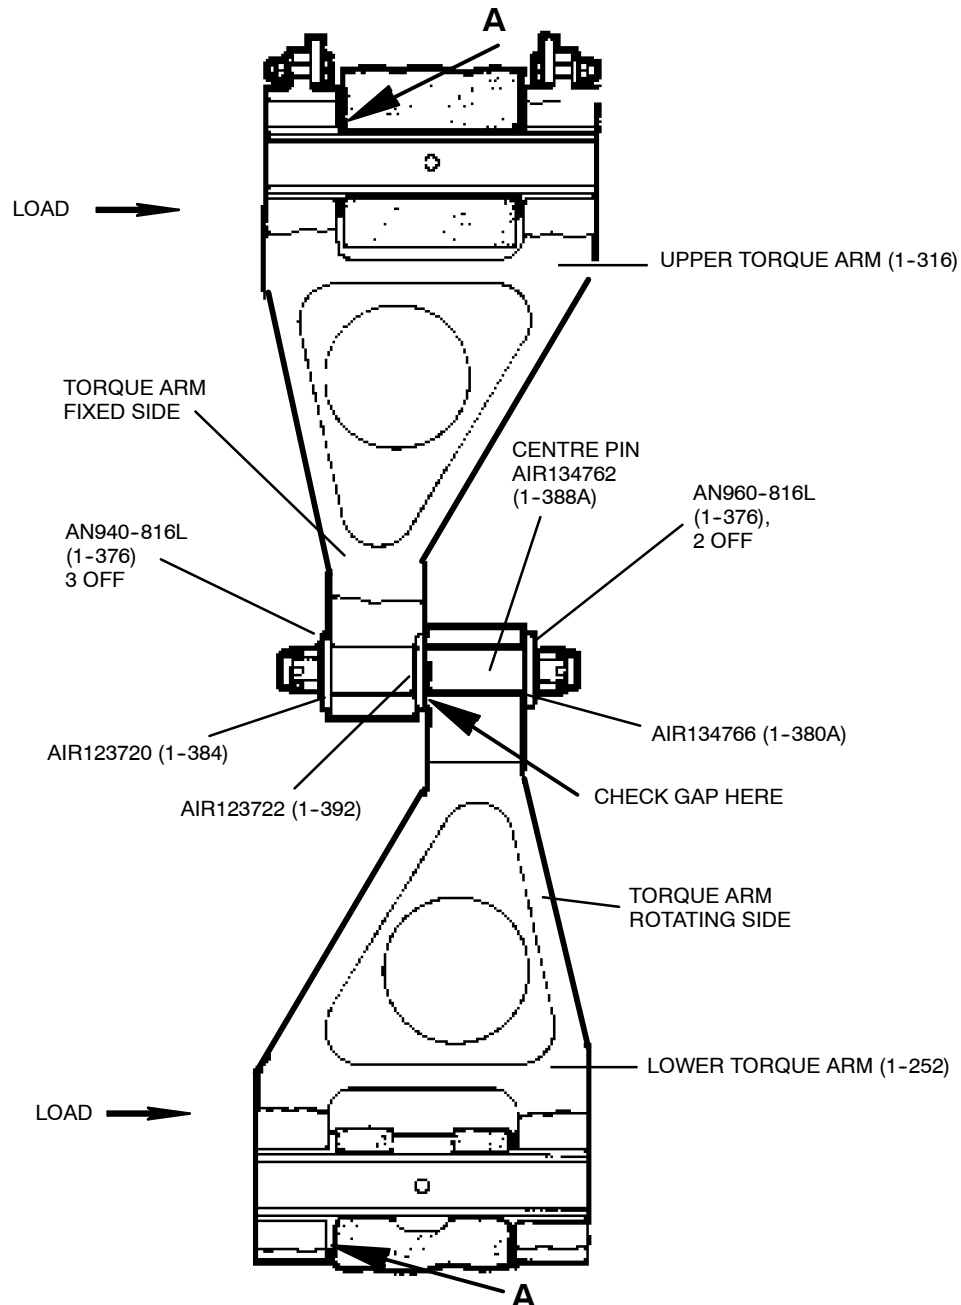

Figure 1
2. ACCOMPLISHMENT INSTRUCTIONS (Figure 1)
- (3) Install the lower torque link to the centre pin and install this assembly to the setting fixture AE7045. Refer to Figure 1. Use the adjusting screws of the setting fixture and push the torque link assembly in the direction of the arrows, check there are no gaps at the position A.